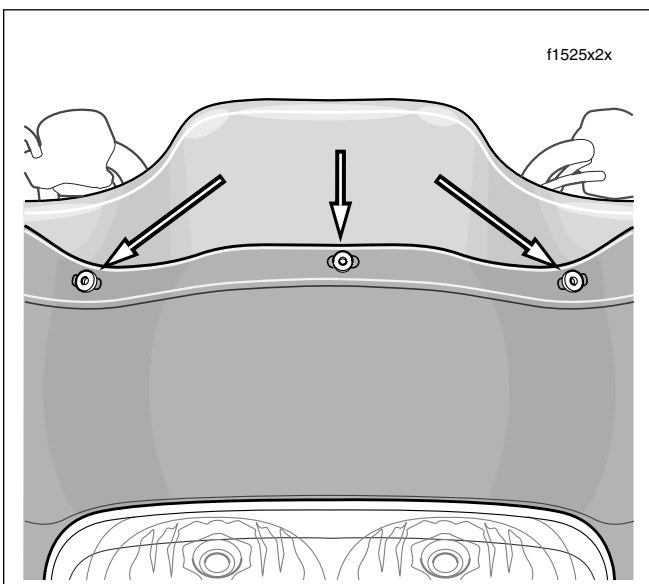

Figure 2-171. Remove Wellnuts From Outer Fairing
3. Carefully remove wellnuts (with rubber flat washers) from holes in outer fairing. See Figure 2-171. Exercise caution to avoid pushing wellnuts into fairing during removal. Inspect wellnuts and rubber flat washers for cuts, tears or signs of deterioration. Replace as necessary.